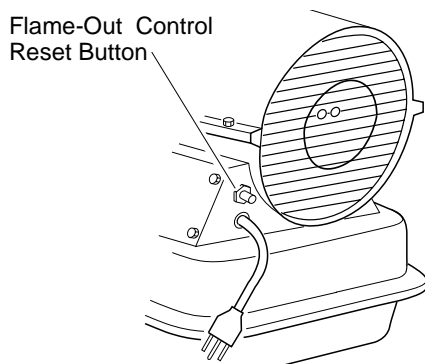

Figure 4 - Flame-Out Control Reset Button
- Plug extension cord into standard 120 volt/60 hertz, three-hole, grounded outlet. Heater will start when extension cord is plugged into outlet. If not, push in flame-out control reset button (see Figure 4).